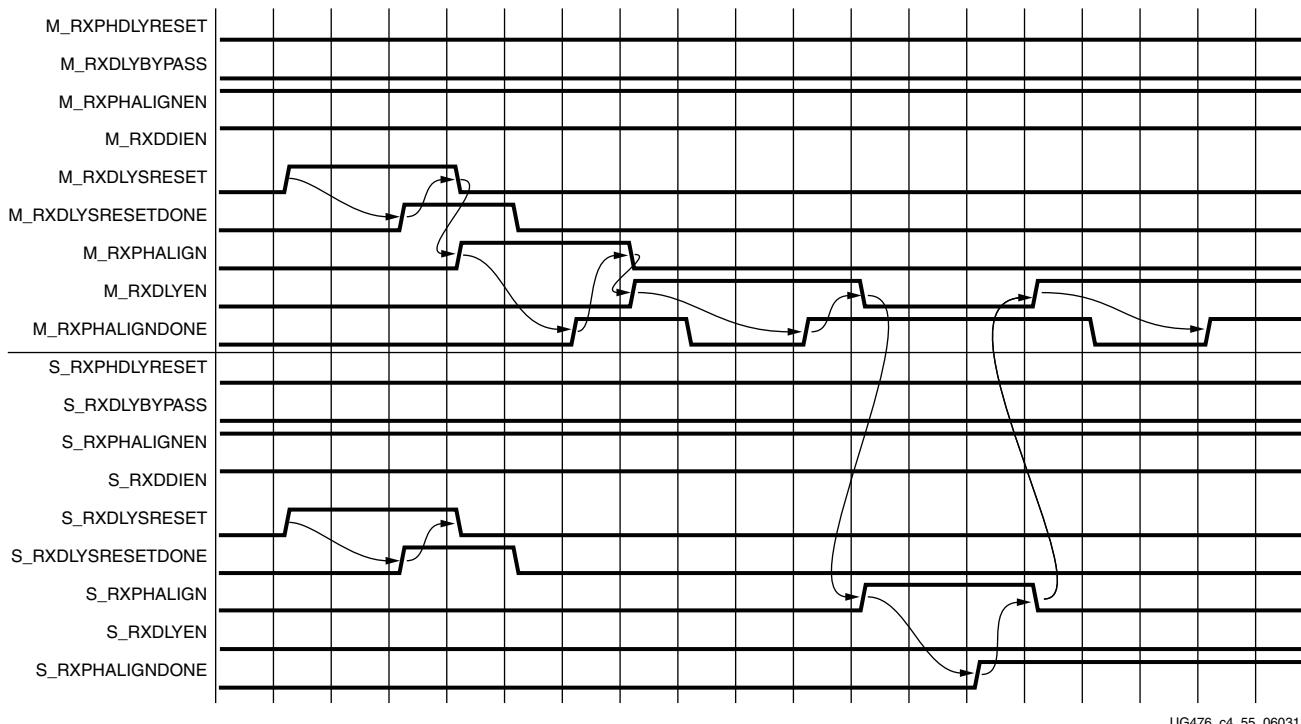

Figure 4-45: RX Phase and Delay Alignment in Manual Mode
Figure 4-45 shows the required steps to perform manual RX phase and delay alignment.
Notes relevant to Figure 4-45:
1. The sequence of events shown in Figure 4-45 is not drawn to scale.